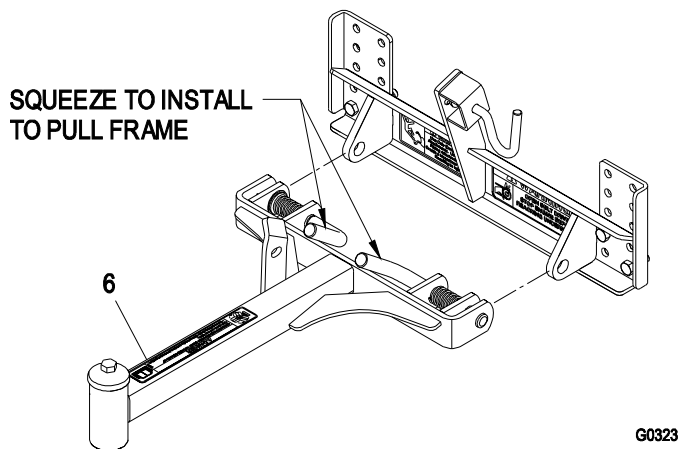

FIGURE 7
4. Locate the pull arm assembly (Item 6). Align pull arm assembly with pull frame (Item 5) as shown in figure 7. Squeeze quick connect pins on pull arm assembly and attach pull arm assembly to pull frame.